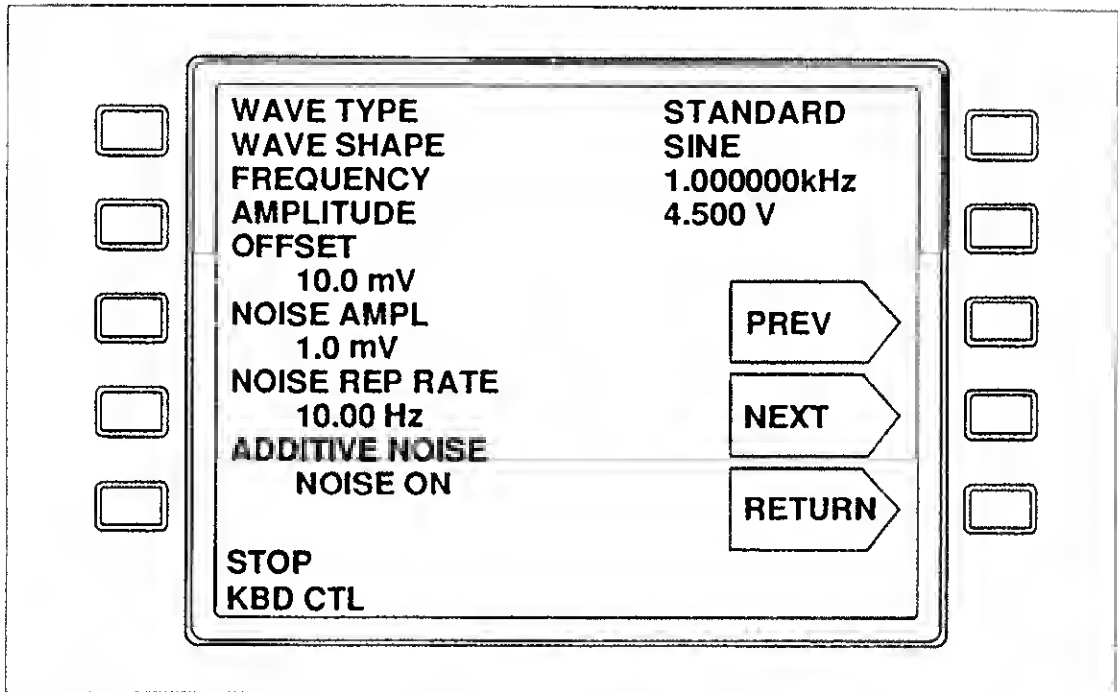

Figure 2-9. Sample STAT Display
- Press the STAT function key. The display should look like the example in Figure 2-9.